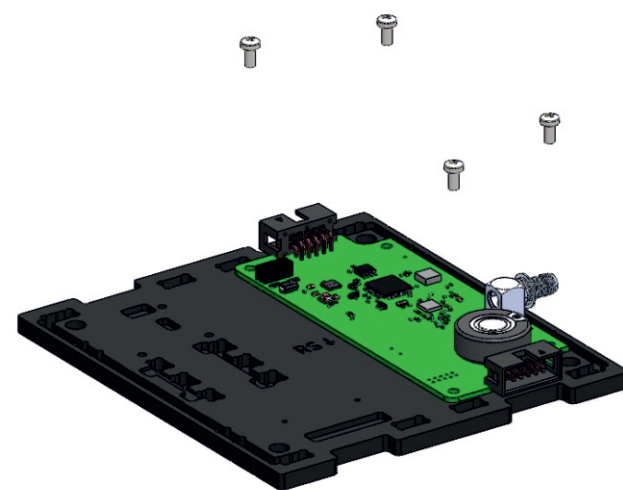

Fig. 24: Installing the UHF circuit board
1) Place the UHF board on the bottom plate (marked as “ERS↓”), then secure the board with four M3x6 cylindrical-head screws (Fig. 24):